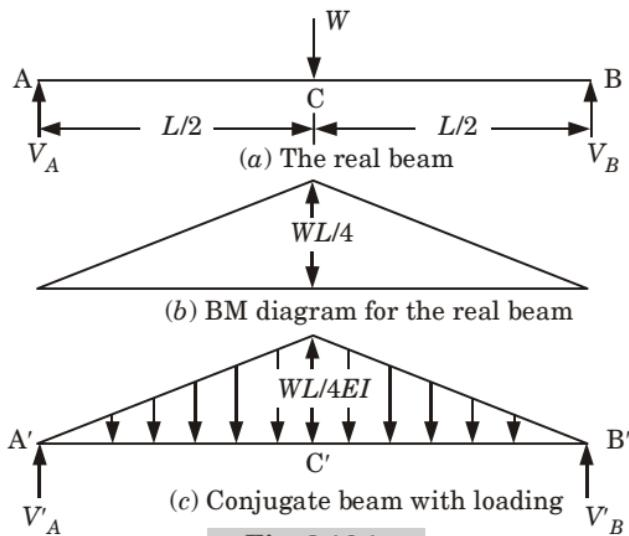

Fig. 3.16.1.
- Fig. 3.16.1(a) shows the real beam; BM diagram for the real beam is shown in the Fig. 3.16.1(b).
2. The  $\frac{M}{EI}$  diagram of the real beam becomes the elastic weight or loading for the conjugate beam. The conjugate beam  $A'C'B'$  (corresponding to the real beam  $ACB$ ) with the loading is shown in Fig. 3.16.1(c).